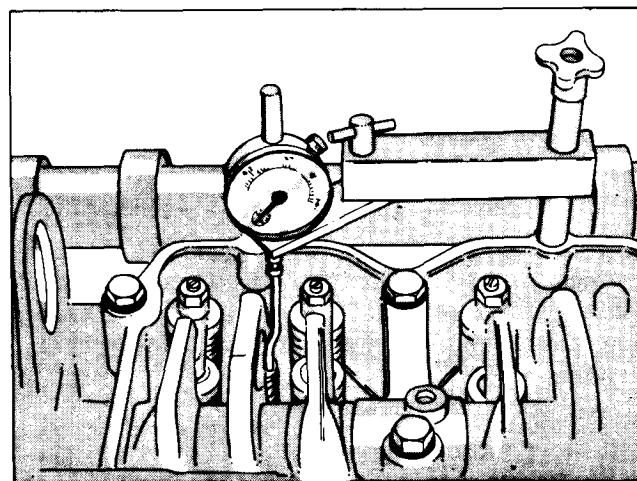

Fig. 14-72 (OM1051L). Check The Travel Of The Injector Plunger.
3. Use the Part No. 3375842 Injector Adjustment Kit to check the travel of the injector plunger. Install the dial indicator and support so that the extension for the dial indicator is against the injector plunger, Fig. 14-72. Make sure that the extension is correctly installed into the indicator stem and that it does not touch the rocker lever.